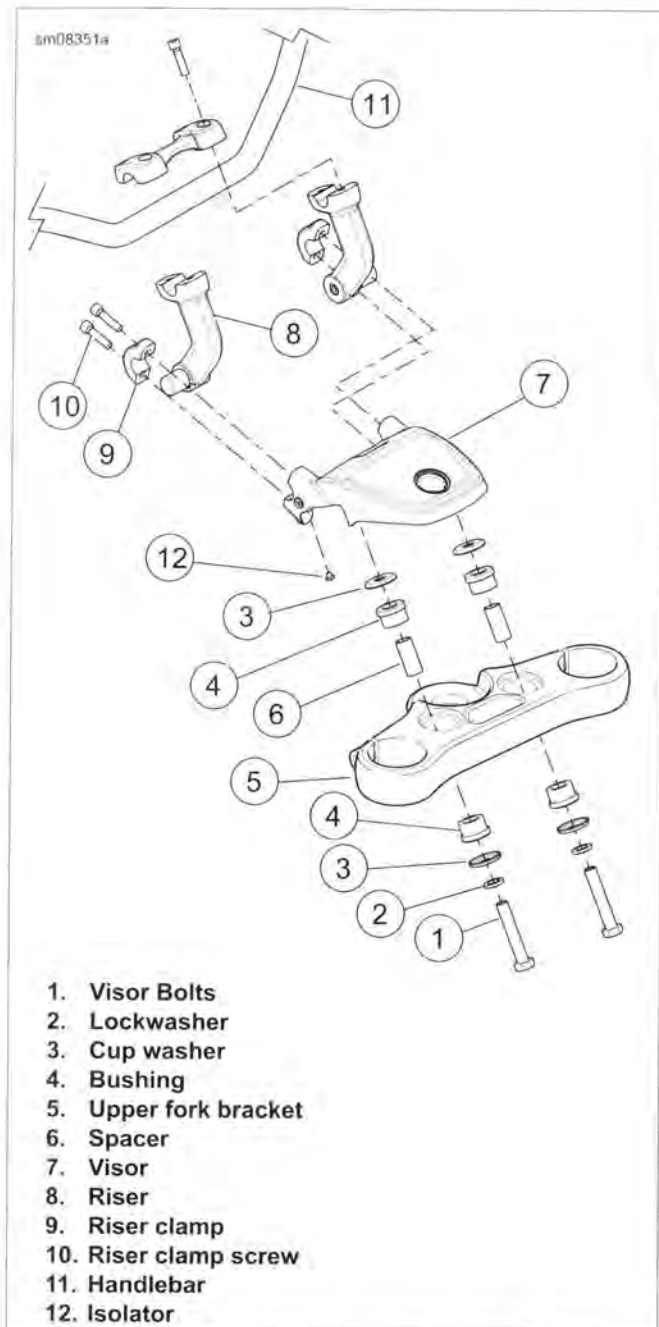

Figure 7-31. Headlamp Visor Assembly: FXDL
9. See Figure 7-31. Remove riser clamp screws (10) and lower riser clamps (9). Rest handlebar assembly on covered fuel tank.
10. Remove headlamp visor mounting bolts (1). Remove headlamp visor (7).
1. See Figure 7-31. Inspect isolator (12). Replace if necessary, by pulling out isolator and pressing **new** isolator in place. No special tools are needed.
2. See Figure 7-31. Install headlamp visor (7) with mounting bolts (1). Tighten to 30-40 ft-lbs (40.7-54.2 Nm).
3. Install handlebar assembly. Position risers to align with marks from previous position. Secure with lower riser clamps (9) and riser clamp screws (10).